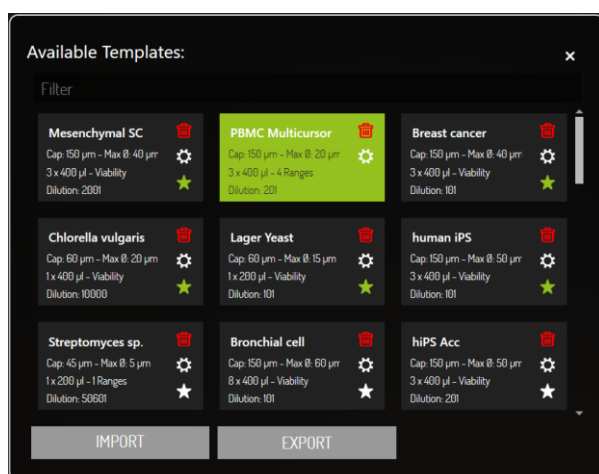

Figure 18: Template function – all templates are displayed. Templates can be import or exported, deleted or modified.
1. Templates can be imported or exported (see Figure 18)